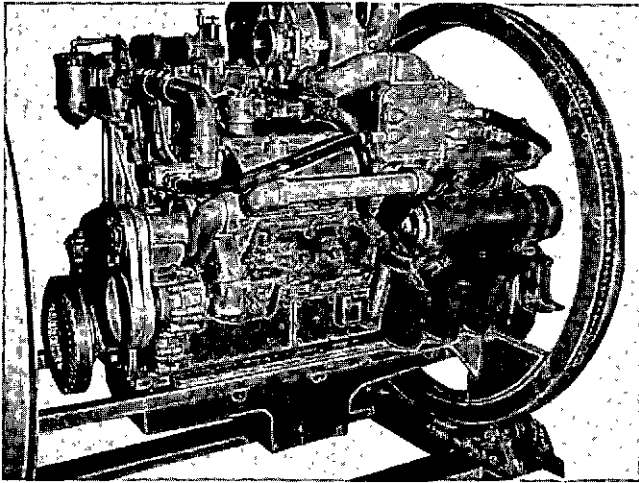

Fig. 0-7, V40039. Engine mounted on ST-412 Engine Stand
3. Bolt engine in place on the stand, utilizing the holes in the cylinder block flange, Fig. 0-7.